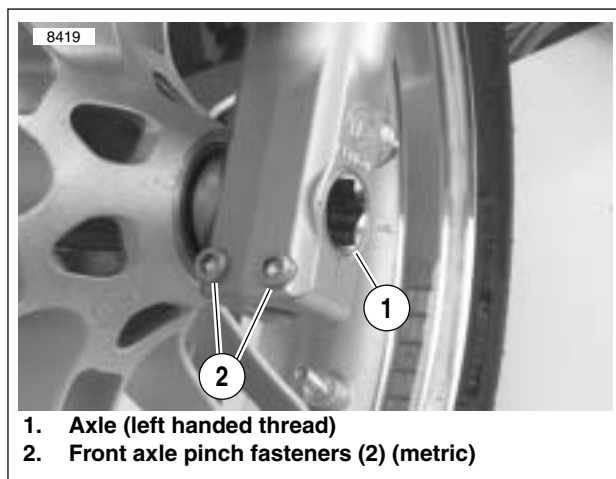

Figure 2-4. Front Wheel Mounting
3. See Figure 2-4. Loosen front axle pinch fasteners (2) (metric) on front fork.
4. Remove axle (1).